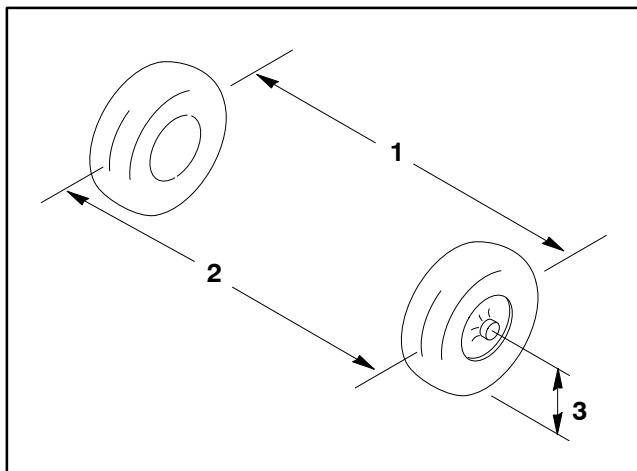

Figure 6
5. Measure distance between the front tires at axle height at both the front and rear of the tires (Fig. 6). Front wheel toe-in should be from **0 to 1/4 inch (0 to 6 mm)**.